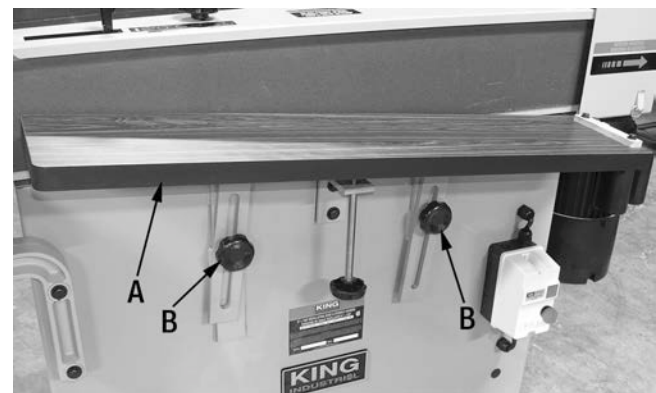

FIGURE 5
- 6) The front main table (A) Fig.5 can also be inclined left or right to allow sanding irregular workpieces. Loosen the two lock knobs (B) and raise or lower one end of the front main table. Retighten the two lock knobs (B) to secure the table position.